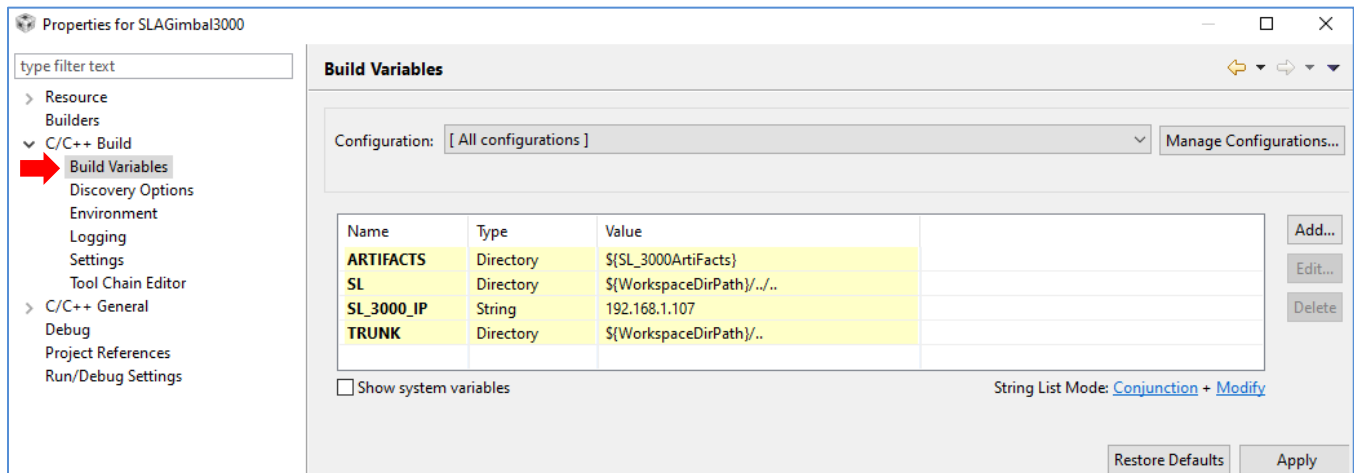

Figure 6: Build Variables with OEM Board IP Address
4. Input the variable name as `SL_**OO_IP` and the value as the IP address of the board for all configurations as shown in Figure 6.